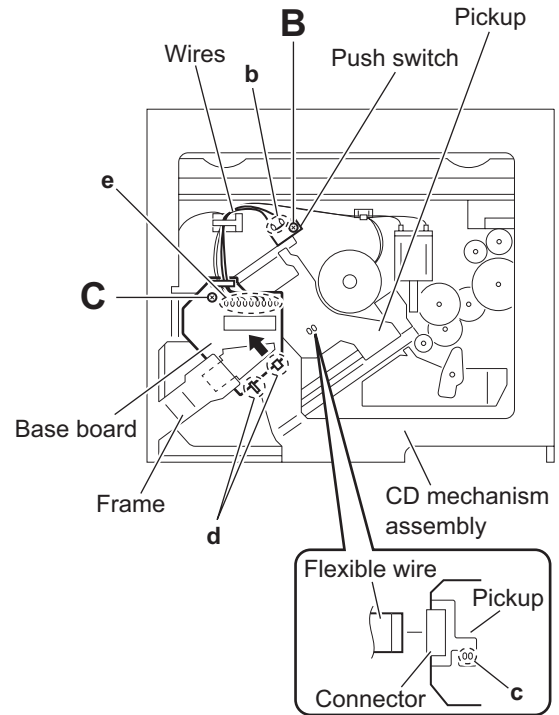

Fig.3
3.1.2 Removing the push switch (See Figs.3)
3.1.3 Removing the base board (See Figs.3 and 4)
Solder the short land **c** before the flexible wire is disconnected from the connector on the pickup. If the flexible wire is disconnected without applying solder, the pickup may be destroyed by static electricity. (See Fig.3.)
- (1) From the bottom side of the CD mechanism assembly, remove the screw **C** attaching the base board. (See Figs.3 and 4.)
- (2) Solder the short land **c** on the pickup. (See Fig.3.)
- (3) Disconnect the flexible wire from the connector on the pickup. (See Fig.3.)
- (4) Remove the base board from the joints **d** of the frame in the direction of the arrow. (See Figs.3 and 4.)
Remove the wires from the soldered sections **e** on the base board as required. (See Fig.3.)
When reattaching the base board, be sure to remove solder from the short land **c** after connecting the flexible wire. (See Fig.3.)